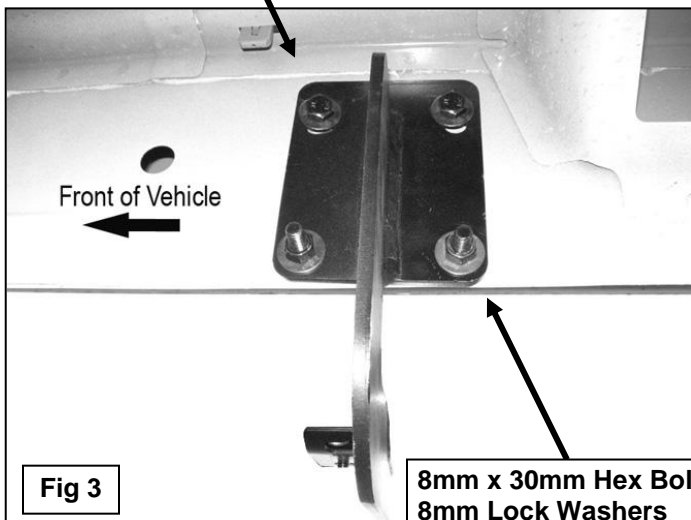

Fig 3
4. Partially attach the passenger side front Mounting Bracket to the Clip Nuts using the included (2) 8mm x 30mm Hex Bolts, (2) 8mm Lock Washers and (2) 8mm Flat Washers, (**Figure 3**). **NOTE:** Cradles on the Mounting Brackets should face the front of the vehicle.
5. Bolt the (2) bottom holes in the Mounting Bracket to the (2) holes in the pinch weld using the included (2) 8mm x 30mm Hex Bolts, (2) 8mm Lock Washers, (4) 8mm Flat Washers and (2) 8mm Hex Nuts, (**Figure 3**). Do not tighten hardware at this time.
7. Carefully unwrap and position the Sidebar onto the (2) Mounting Brackets. Bolt the Sidebar to the Brackets with (4) 8mm x 25mm Hex Bolts, (4) 8mm Lock Washers, and (4) 8mm Flat Washers, (**Figures 3 & 4**). Do not tighten at this time.